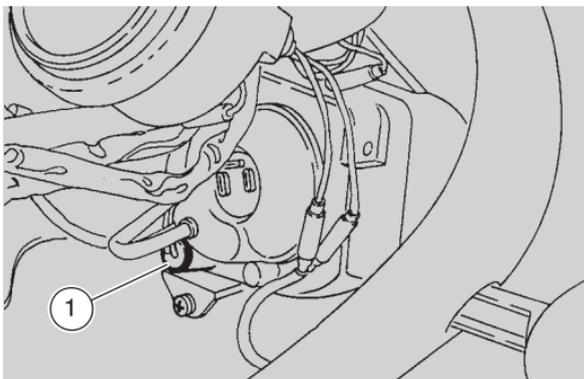

Fig. 56
- remove the rubber socket (1-Fig. 56) and extract the bulb;